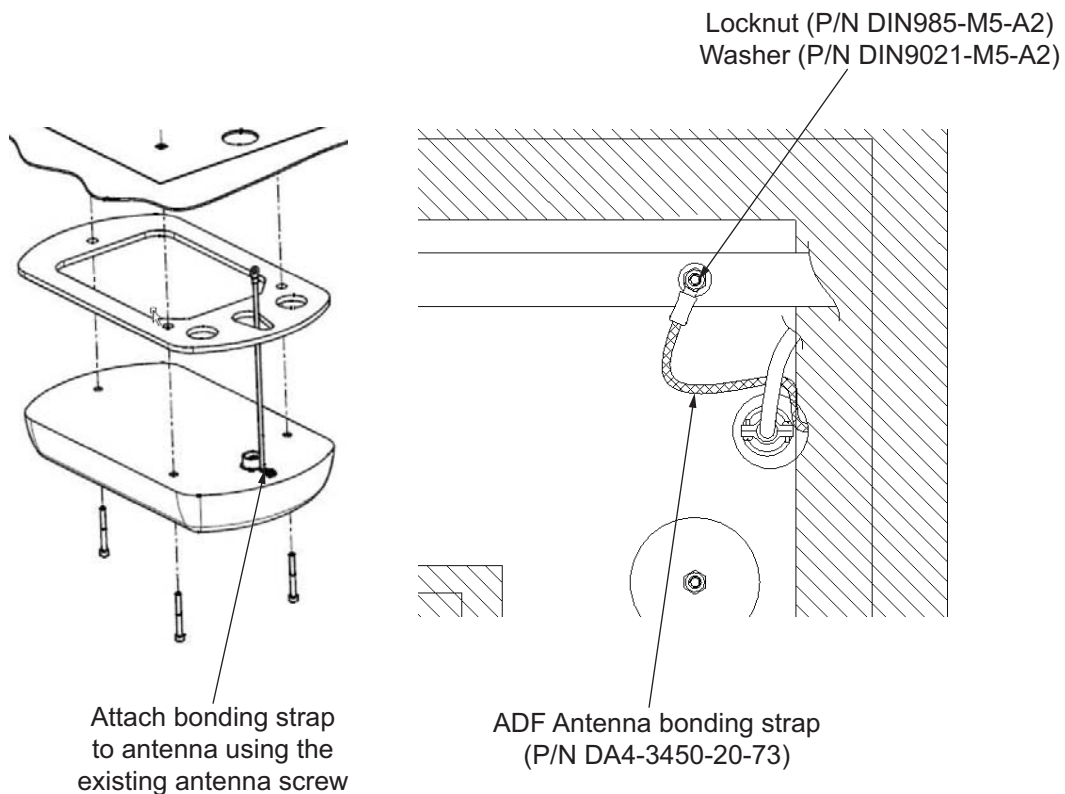

Figure 5
- 10.2.5 If the ADF antenna bonding strap (P/N DA4-3450-20-73) is not installed, install to aircraft the LP strap as shown in Figure 5. Use supplied locknut (P/N DIN985-M5-A2) and washer (P/N DIN9021-M5-A2).